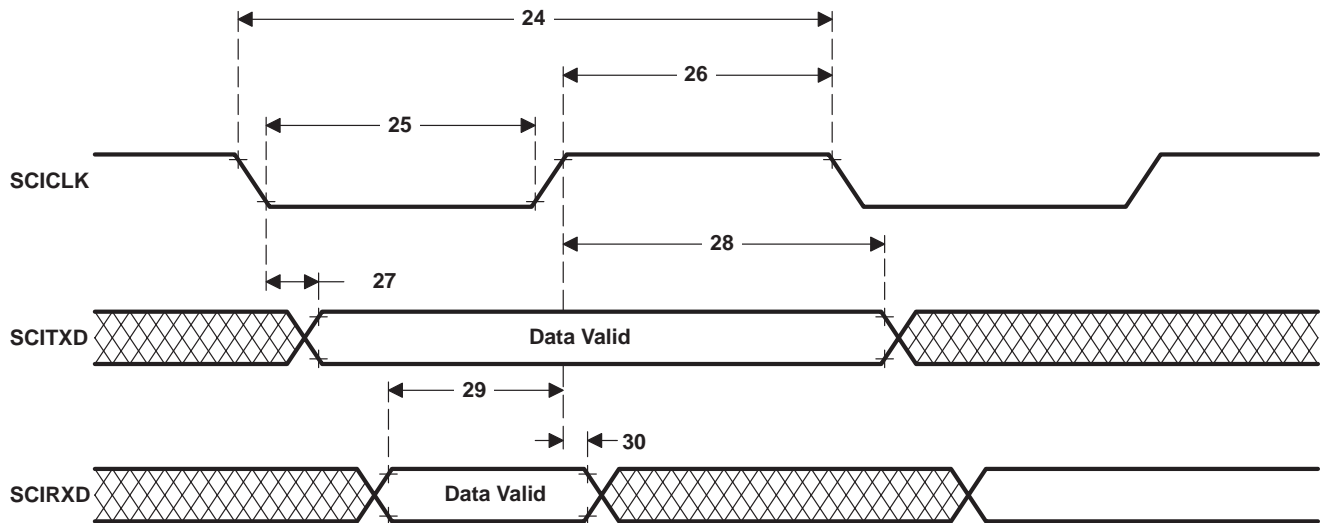

Figure 29. SCI1 Isosynchronous† Mode Timing for Internal Clock
**SCI1 isosynchronous† mode timing characteristics and requirements for internal clock (see Note 14 and Figure 29)**